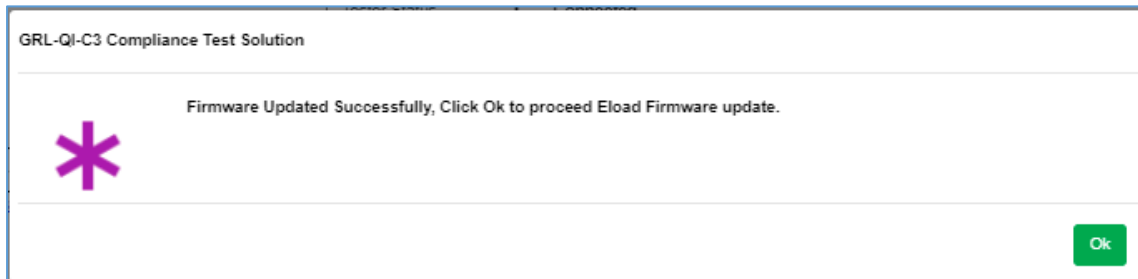

FIGURE 7.5: UPDATE GRL-C3 FIRMWARE– #3
- A pop-up message will appear when the firmware update process has completed successfully (Figure 7.5 below). Click “Ok” to proceed with E-Load firmware update for the GRL-C3 tester hardware.